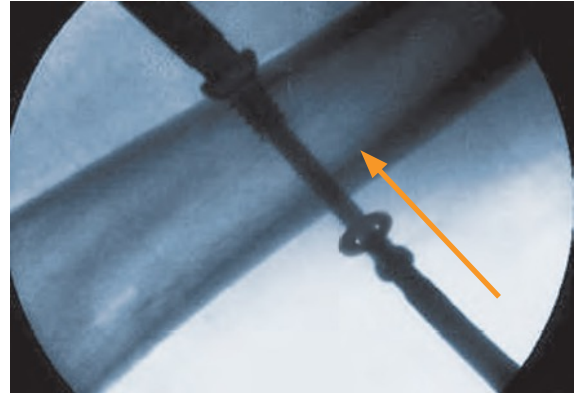

Figure 3
10. Place the Washer on the Low Profile Screw, and advance the screw through the pre-drilled hole until it engages the STABLE-LOK Nut on the far cortex (Figure 3).